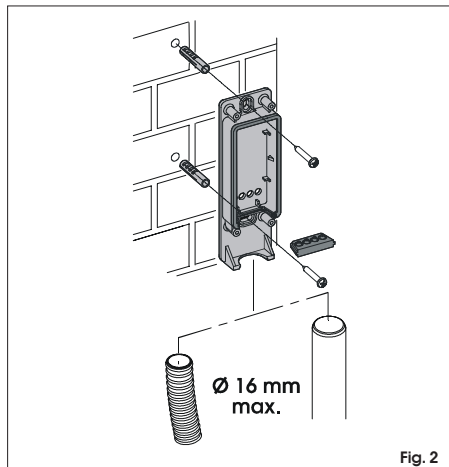

Fig. 2
- 2- With outer tube/sheath (fig.2).